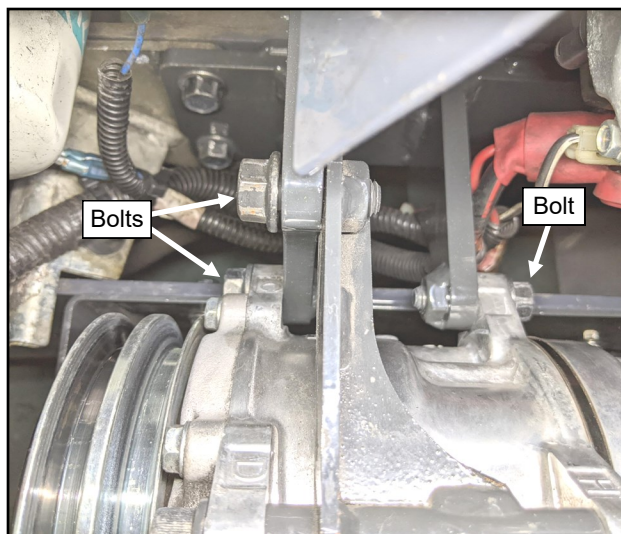

Fig. 6.1 (Install Compressor)
- 6.1 Move compressor into location on the left side of the engine and secure to the bracket with the hardware removed on step 1.5. See figure 6.1. Do not tighten hardware at this time.